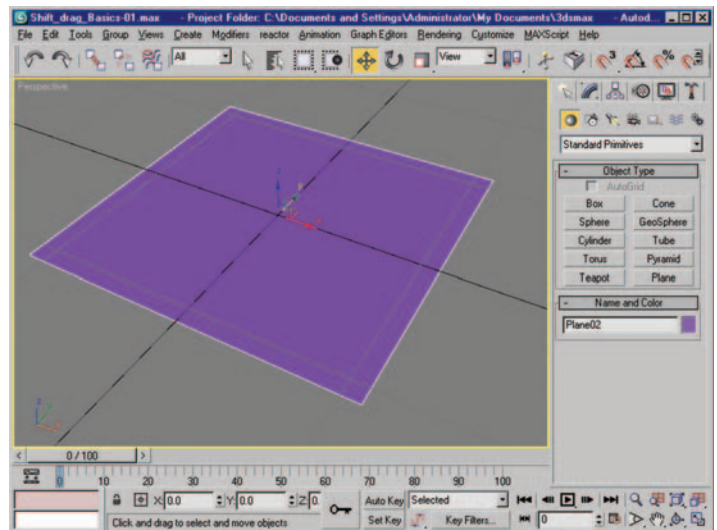

Figure 3.1 Plane object with one width and one height segment.
1. Let's begin by going to the Command panel, and in the Create panel let's create a “plane” object in the top viewport, giving it one length and one width segment (Figure 3.1).